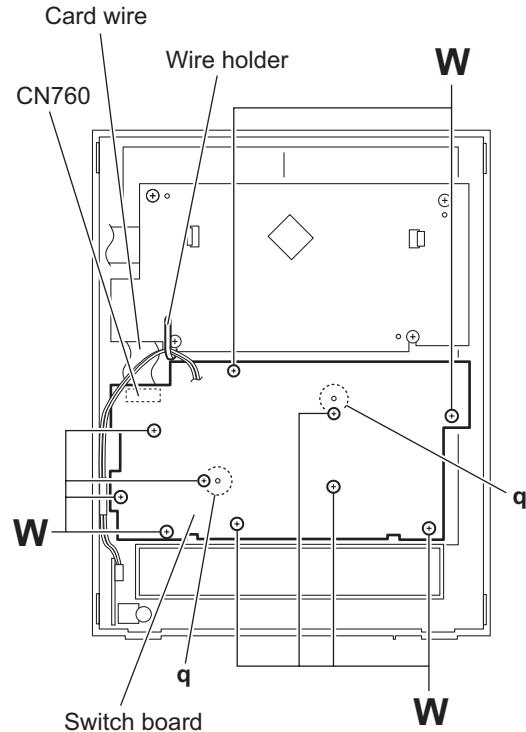

Fig.28
- (2) From the inside of the front panel assembly, remove the ten screws **W** attaching the switch board. (See Fig.28.)
- (3) Take out the switch board from the front panel assembly and disconnect the card wire from the connector CN760 on the switch board. (See Fig.28.)
- When attaching the switch board, align the projections **q** of the front panel assembly in the holes of the switch board. (See Fig.28.)